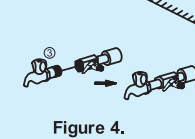

Figure 4.
3. The other end of the 3-way connector can be connected to a tap (marked as no.3) as shown in figure 4. or can be plugged off if not required.